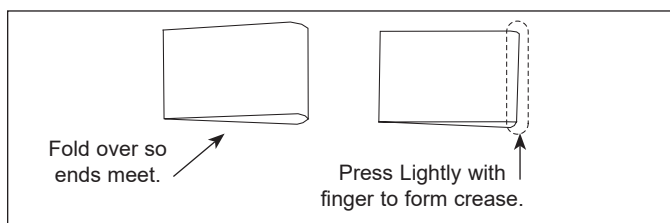

Figure 5. Folding the Release Sheet
2. Press and hold the **TEMP UP** and **TEMP DOWN** buttons for over 1 second until the display flashes the Platen setpoint temperature (Figure 5), then release.
2. Lay a new Release Sheet on a clean, dry surface and fold it in half lengthwise and gently crease it at the fold using only your fingers (Figure 5).